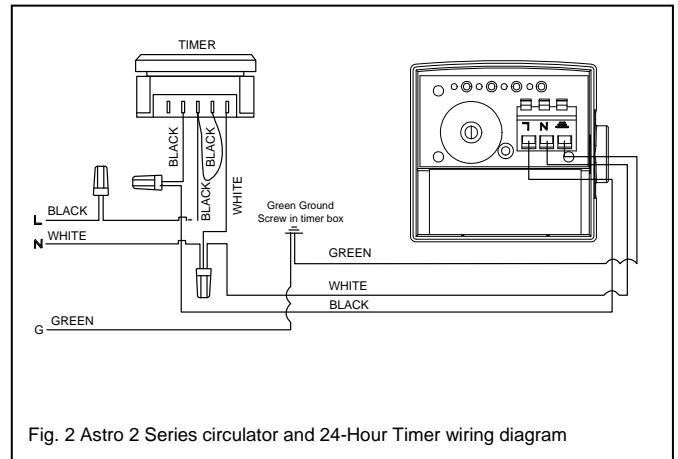

Fig. 2 Astro 2 Series circulator and 24-Hour Timer wiring diagram
- Unfasten the mounting screw (4A) and remove the terminal box cover (3).
- Unfasten the mounting screw (4B) on the timer box cover (10) and detach it from the base (8).
- Remove the original conductor (7A) from the circulator terminal box (2)
- Fasten the connection adaptor (7B) to the circulator terminal box (2)
- Fasten the threaded fitting (6) to the connection adaptor (7B)
- Fasten the lock nut (5A) on the end of the threaded fitting (6) and insert the timer box (8)
- Fasten the lock nut (5B) onto the end of the threaded fitting (6) so the timer box (8) is in between and securely attached.
- Connect timer lead wires (black, white and green) to the terminal box (See Fig. 2 for 24-Hour Timer wiring diagram. See Fig. 3 for 24-Hour timer and Aquastat Control wiring diagram.)
- Re-attach the timer box cover (10) using the mounting screw (4B). Insure that all lead wires are inside the timer assembly.
- Close the terminal box cover (3) by fastening the mounting screw (4A).